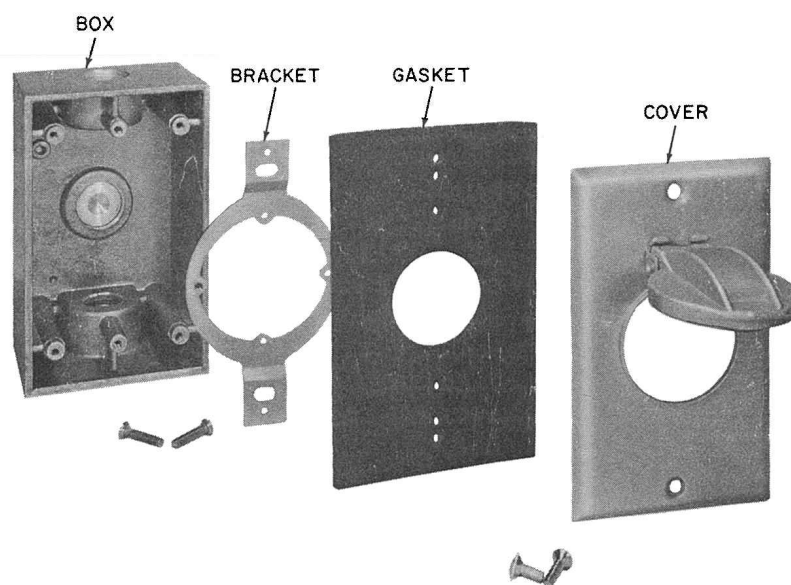

Fig. 29 — KS-19316, List 1 Weatherproof Housing
3.07 The KS-19316, List 1 weatherproof housing (Fig. 29) is an aluminum alloy outlet box, a rubber-gasketed cover with spring-hinged door, and a bracket which will mount 493-, 541-, and 548-type jacks. It is primarily intended for recess mounting to provide for an outdoor telephone outlet. Mounting hardware is furnished.